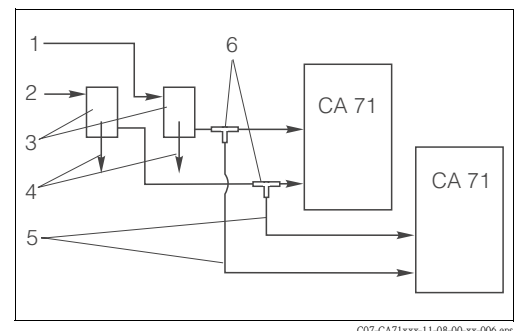

Fig. 14: Installation example
- Distance between the analysers as short as possible: sampling line between T-piece and the second analyser (Fig. 14, item 5) shorter than 1.5 m